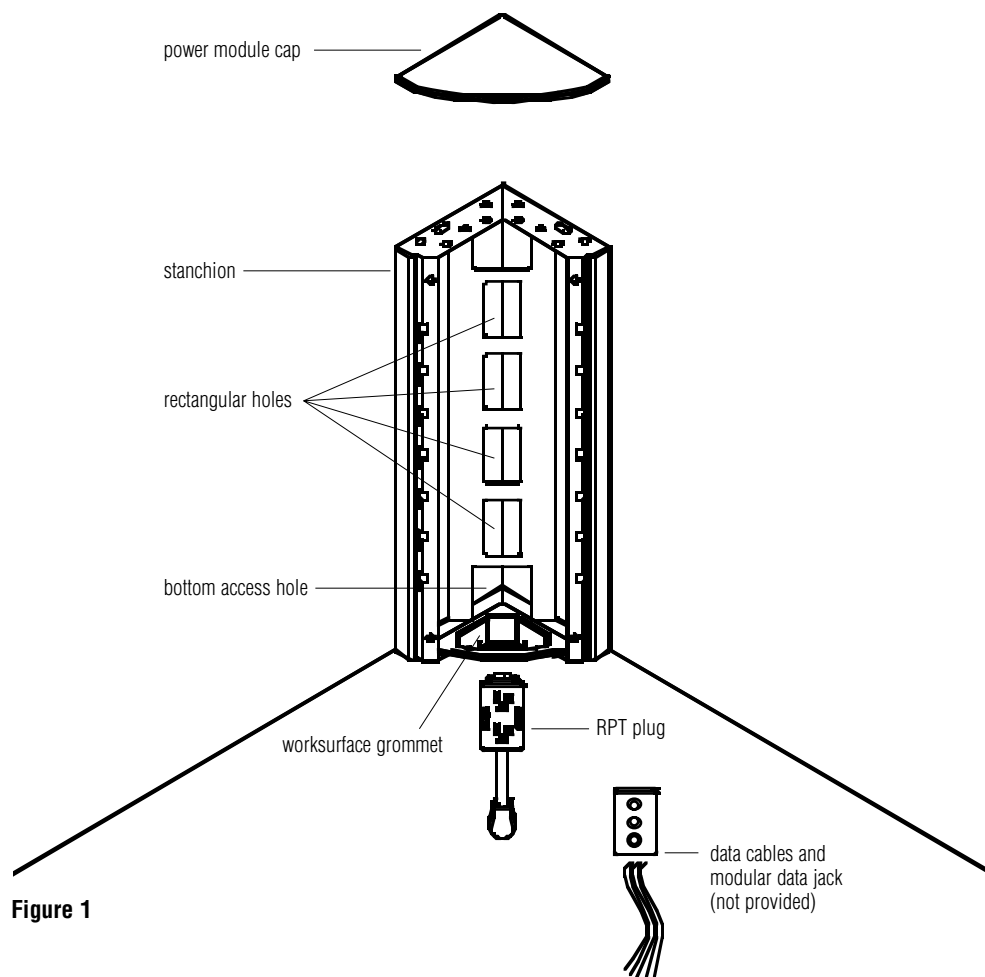

**Figure 1**
1. Complete all electrical connections on rigid wireway. Locate screws attaching the rigid wireway to the modesty panel beam and loosen approximately 1/8". Align slots on rigid wireway cover flange with screws and slide into place between screw head and modesty panel beam. Retighten screws (Figure 1).